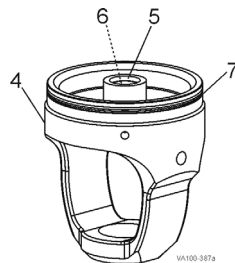

Figure 33: Remove Yoke O-ring and Guide Bearing
2. Remove the yoke (Figure 33, item 4). Inspect the lower stem o-ring (item 6) and cylinder o-ring seals (item 7).
4. Remove the PTFE guide bearing (Figure 33, item 5) by placing a screwdriver behind the bearing to pry it away from the wall of the yoke. Use needle-nose pliers to grip and remove the bearing.